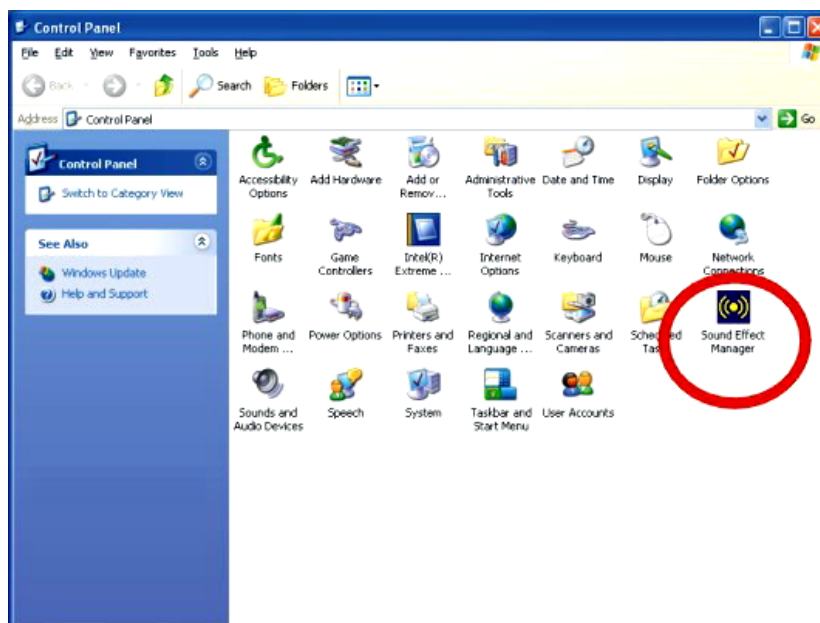

Figure C-1: Sound Effect Manager Icon
- The Sound Effect Manager icon in the Notification Area of the system task bar (see **Figure C-1**), or